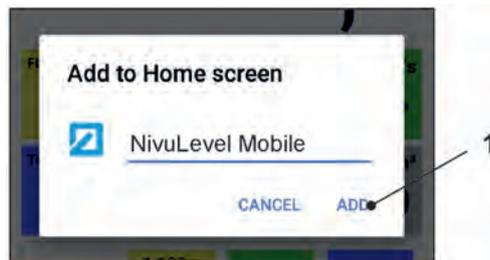

Fig. 30-8 Confirm adding
9. Confirm with “Add” (Fig. 30-8 Pos. 1).